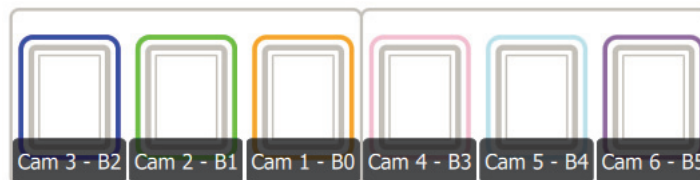

Figure 28 - Monogram Creator Layout, with Buttons 1, 2, and 3 in Reversed Order
5. If controls on a Dial module or Essential Keys module are reversed, as in the example shown in Figure 28, close the profile tab and then re-load the profile.